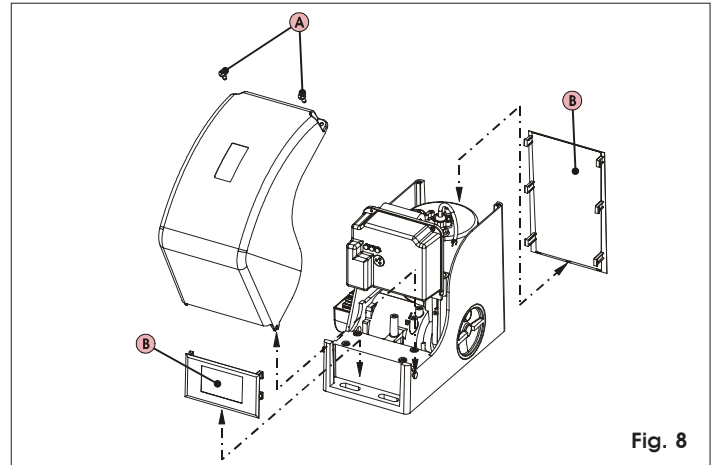

Fig. 8
- 1) Remove the motor cover, fully unscrewing the 2 upper securing screws (Fig.8 ref.A), turn the cover by about 30° and extract it vertically. Withdraw the 2 side guards (Fig.8 ref.B).